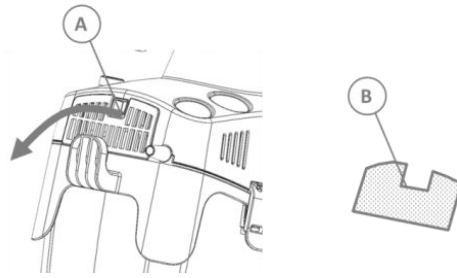

Figure 11
- 19. See figure 11. To clean or replace the post filter move the latch (A) down by pushing the button and take out the filter (B)